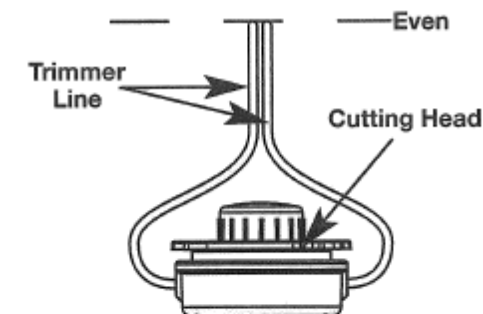

Fig. 24
4. Adjust the line so that both ends are of equal length (Fig. 24).